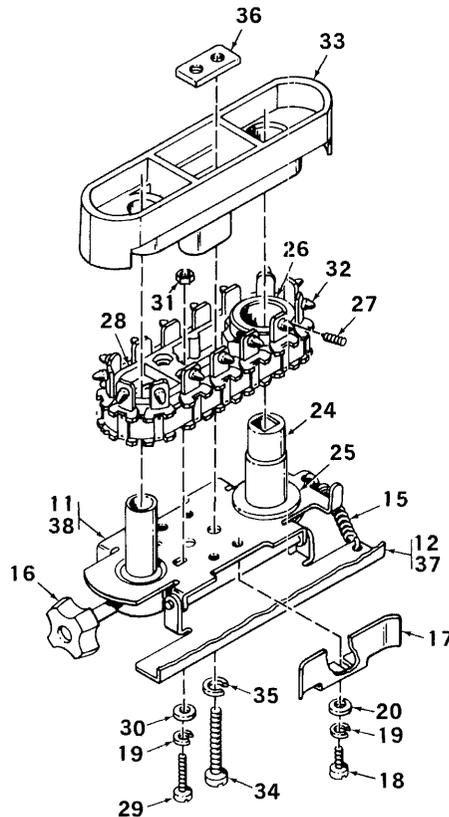

Figure 5-10. REMOVAL OF BELT (32) IDLER SLIDE (28), AND DRIVE PULLEY (26)
**The following removal/replacement procedure (Fig. 5-10) applies to either a left or right pin feed unit. But where there is a part difference, key numbers will be indicated in the text so that the operation being applied will cover both units.**
2. Orient unit so that spring (15) is at bottom of unit while being held in hand. Paper holder gate (12, 37) is closed.
3. Rotate belt (32) by hand, and locate two set-screws (27) between pins on drive pulley (26) for drive sleeve (24) at bottom of unit.
- a. Insert a 1½ mm allen-wrench, and loosen two set-screws (27).
4. Loosen two screws, washers (18, 19, 20) holding the pin attachment guide (17) on the pin feed holder (11, 38).
- a. Open gate (12, 37) and slide pin attachment guide (17) outward so that when belt is compressed each side, the clearance between belt and guide is approximately ¼-in. (6.3 mm) (not critical).
5. Using a medium sized slotted head screwdriver, remove two screws, lockwashers, (34, 35) and plate nut (36) holding pin feed holder (11, 38) and belt guide (33) together.
6. Separate and remove belt guide (33) from remaining portion of pin feed unit. Keep sleeve (24) in position.
7. Remove two screws, lockwashers (29, 19, 30) and recessed nut (31) holding the idler slide (28) to the pin feed holder unit (11, 38). Keep sleeve (24) in position.
8. Lay unit on bench with gate (12, 37) open. The set plate (21) is facing downward, the sleeve (24) is projecting upward, (See Fig. 5-10). (Set plate is not shown).
4. Set left pin feed holder (11) flush to right side of stopper (5), and tighten lock-knob (16).
- C. Pin Attachment Guide (17) (Lift and Right) (Fig. 8-10), (Fig. 5-10)